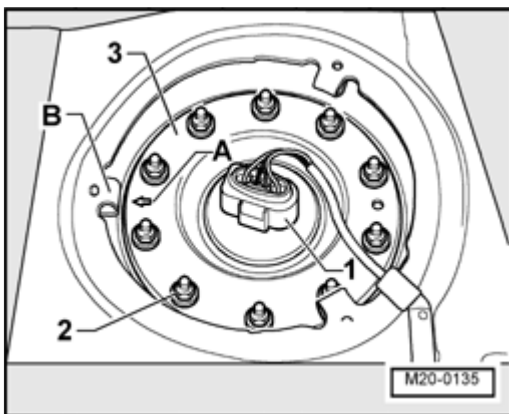

Fig. 208: Installed Position Of Flange Of Fuel Delivery Unit
- Observe installation position. See **Fig. 208** .